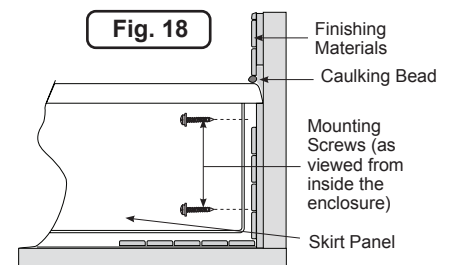

Fig. 18
1. Screw skirt flanges into wall studs, Figure 18.